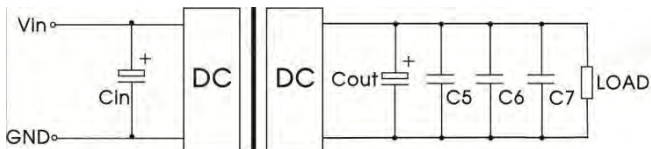

Fig. 2
- ①The Ctrl pin voltage is referenced to input GND.
- ②Output voltage accuracy for 0%-5% load is ±5% max;
- ③Load regulation for 0% -100% load increases to ±3%;
- ④ Under 0% -5% load conditions, ripple & noise does not exceed 5%Vo. By measuring method is used for Ripple and Noise test, please refer to Fig. 2 for recommended circuit.
- ⑤Switching frequency is measured at full load. The module reduces the switching frequency for light load (below 50%) efficiency improvement.
All DC-DC converters of this series are tested before delivery using the recommended circuit shown in Fig. 2.
C12	Refer to the Cout in Fig.2
C13/C14	Refer to the C5, C6 in Fig.2